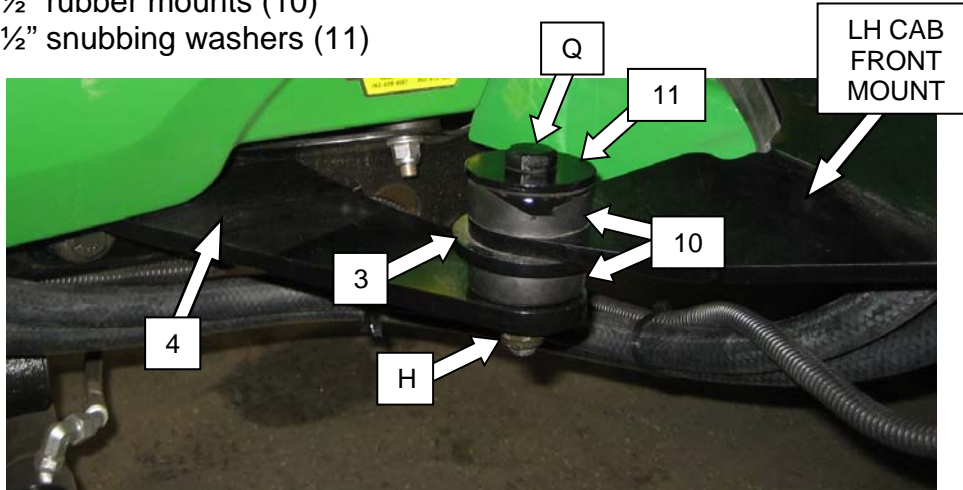

Figure 8
- 12) Secure front of cab to each of the front mounts (4 & 5) using **(Figure 8)**;